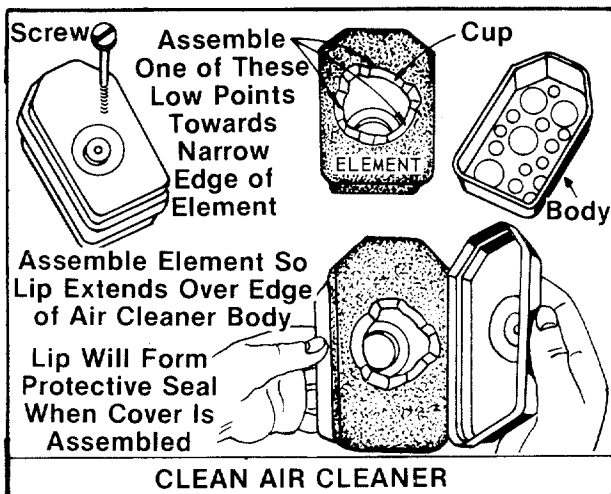

FIGURE 11.
**CLEAN AIR CLEANER** and re-oil element every 25 hours under normal conditions. Clean every few hours under extremely dusty conditions. Poor engine performance and flooding usually indicates that the air cleaner should be serviced. See figure 11.